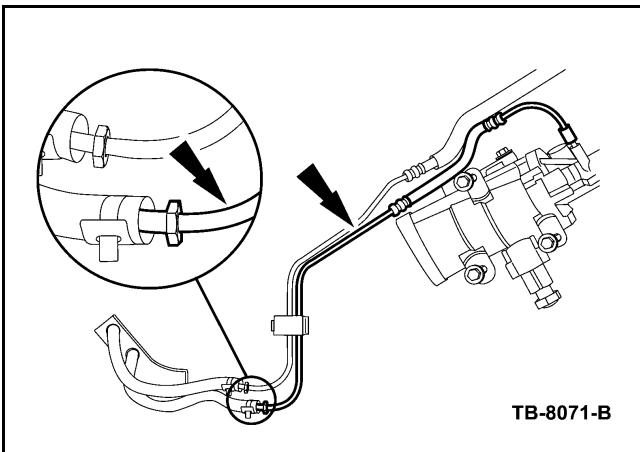

Figure 3 - Article 04-23-8
1. Remove the clamp and disconnect the hose from the cooler to gear line (Figure 3).